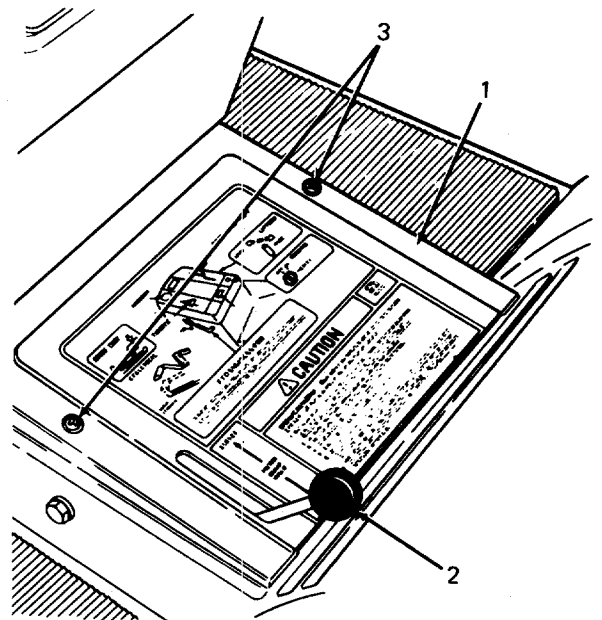

Figure 34
1. Remove the frame cover by removing two screws holding the frame cover to the frame in the step through area. (Refer to Figure 34.)
2. Remove the ball knob from end of dump valve. (Model 1020 only.) (Refer to Figure 34.)